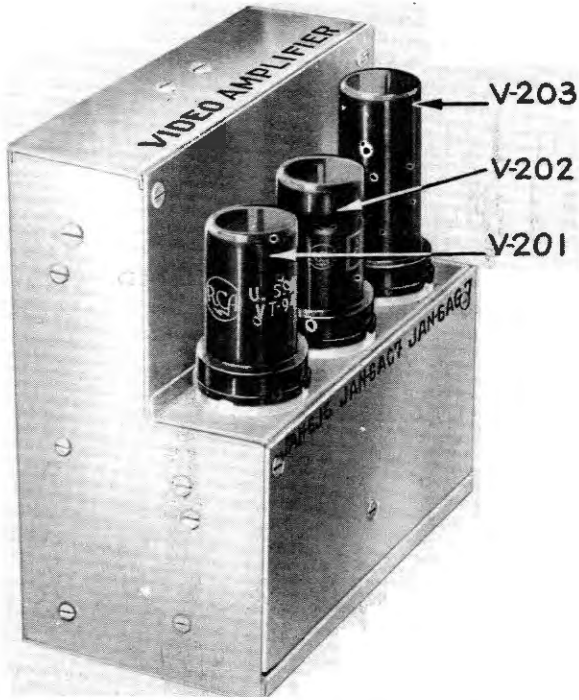

Figure 1-4. Video Amplifier—Outside View
(1) The video amplifier is a three-stage amplifier whose output connects to the vertical plates of the cathode-ray tube. (See figure 1-4.) Connecting plugs are on the bottom.